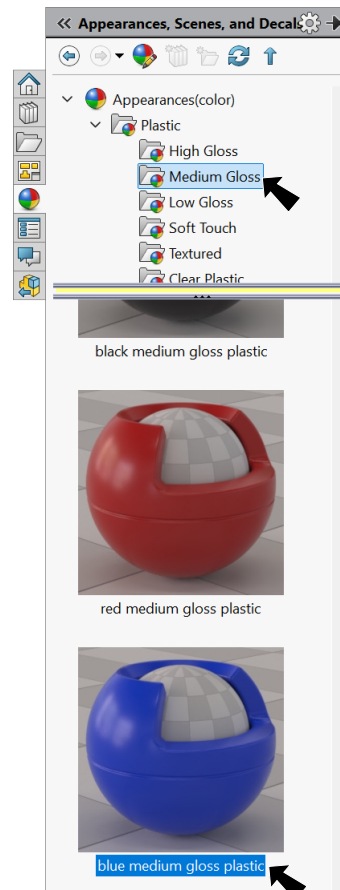

Fig. 10
Step 2. In the Appearances Task pane, expand **Plastic**, click **Medium Gloss** and in the lower pane select **blue medium gloss plastic**, Fig. 10.